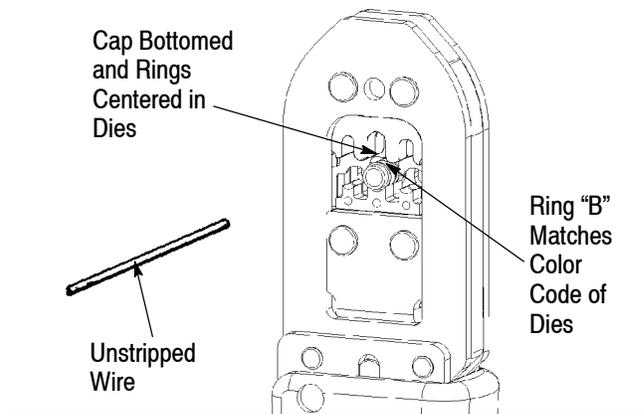

Figure 2
2. Full length of rings not crimped (Cap was not fully bottomed in tool; see Figure 2).